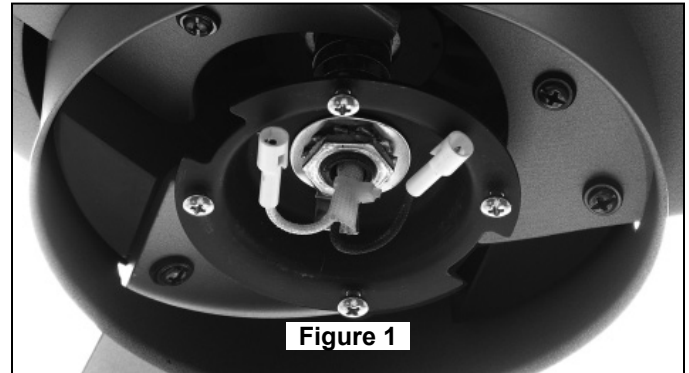

Figure 1
1. After hanging the fan, slide the Square Motor Coupling Cover and Square Sleeve upward to install the Downrod Cover Clip. (Figure 1)
1. Attach blades to the motor hub using the provided washer head screws and fiber washers. Make sure the screws securing the blades to the motor hub are tight and are properly seated. Do not overtighten. (Figures 1 & 2)
1. Loosen three screws and remove one screw from support flange. (Figure 1).